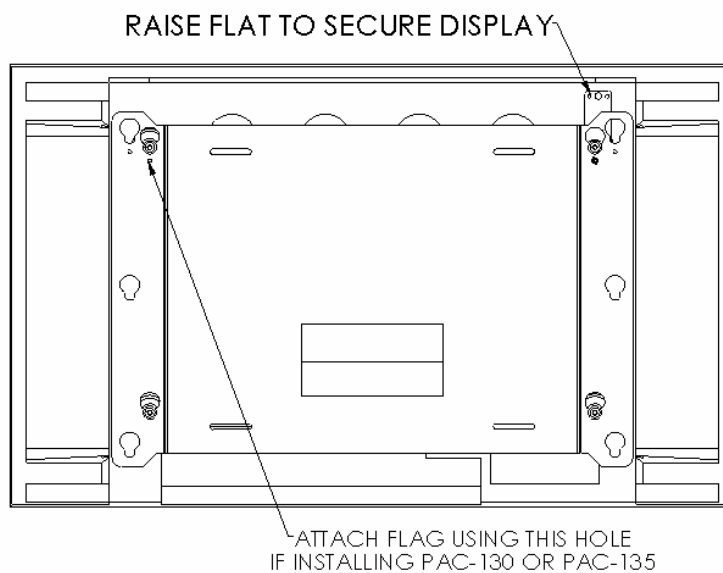

Figure 5
5. With the aid of another person, lift the display up to the mount, align the mounting buttons on the display with the teardrop slots in the mount, and set the display into place (see Figure 5).
6. Position (raise) the flag to secure the display. Install flag using opposing hole if using PAC-130 or PAC-135 Security Accessories (see Figure 5).